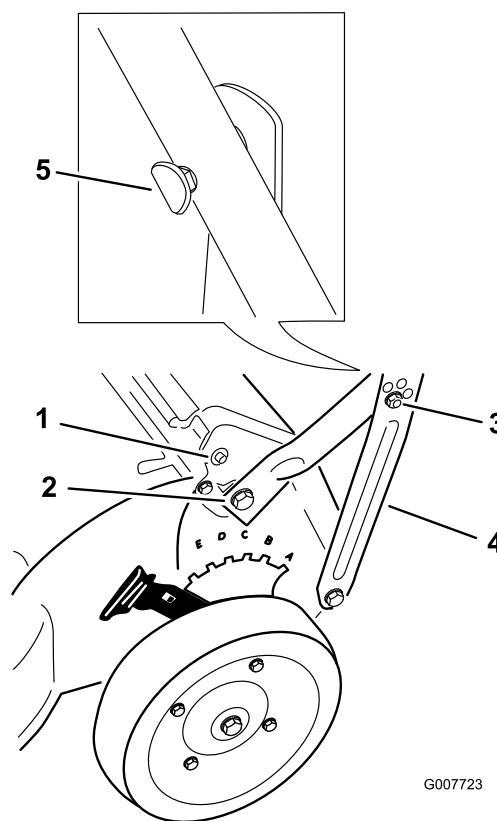

Figure 3
2. Attach the handle to the mower housing with 2 self-tapping hex head screws, 2 washers, and 2 spacers (Figure 3), **but do not tighten the self-tapping hex head screws.**
so that the bolt heads are tight against the handle, and then tighten the locknuts (Figure 3).
Note: Attach the cable tie as low as possible on the handle to prevent the cable(s) from hooking onto the end cap on the rear door rod and interfering with the self-propel system (Figure 3).
- Align the oval bolt heads with the handle as shown in Figure 3; then secure the handle as follows:
- If the holes in the handle are round, align the oval bolt heads with the handle as shown in Figure 3; then, holding the heads in that position, tighten each nut with a wrench to pull the square shank into the handle until the bolt heads are tight against the handle.
- If the holes in the handle are square, align the oval head bolt heads with the handle as shown in Figure 3, insert the square shank into the handle